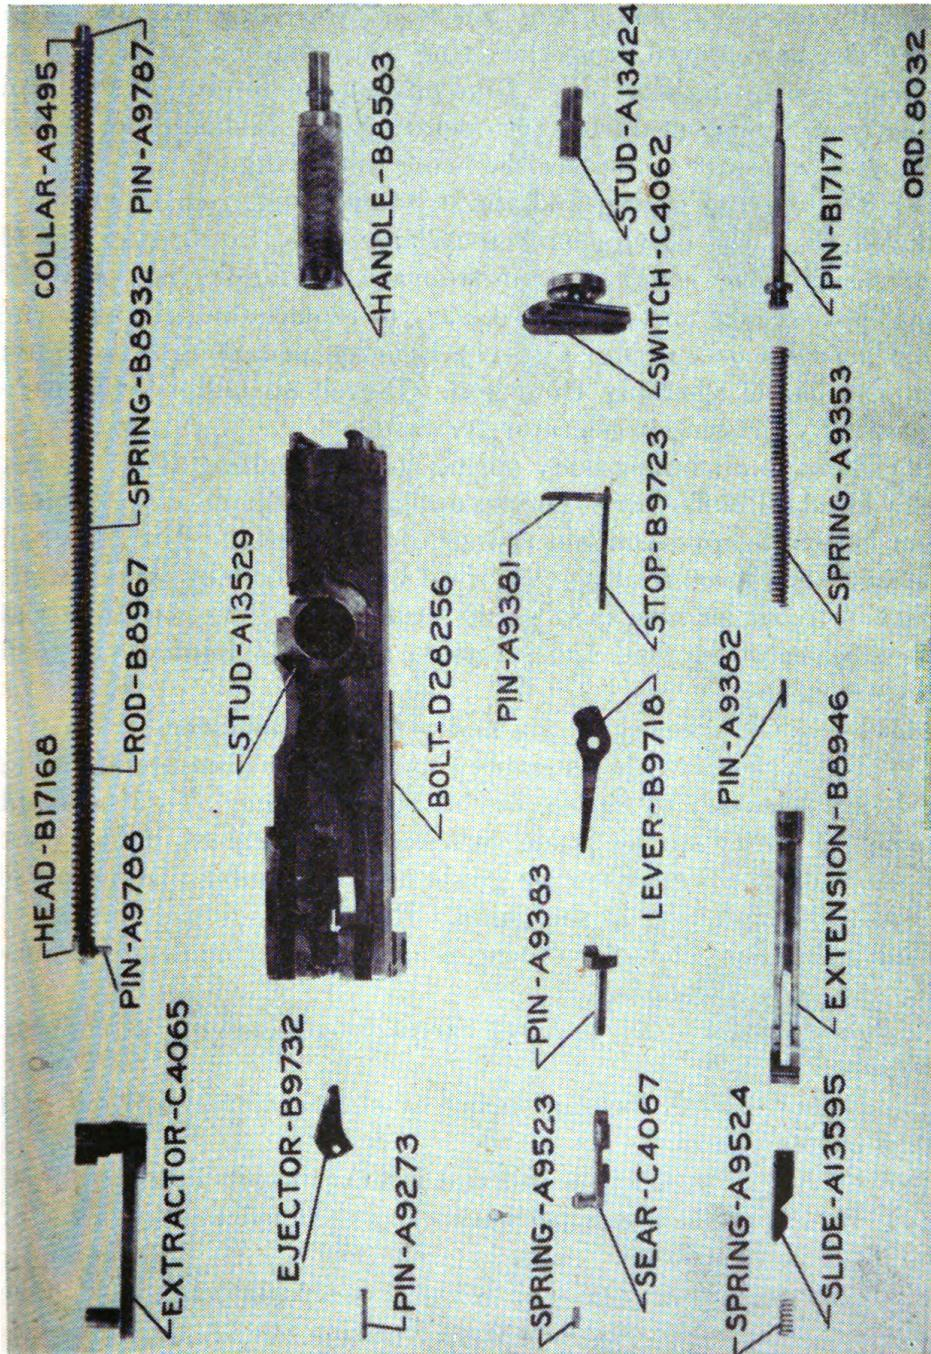

FIGURE 3.—Bolt group.
**11. Detailed disassembling.—***a. Bolt group* (fig. 3).—(1) Remove bolt group from gun.